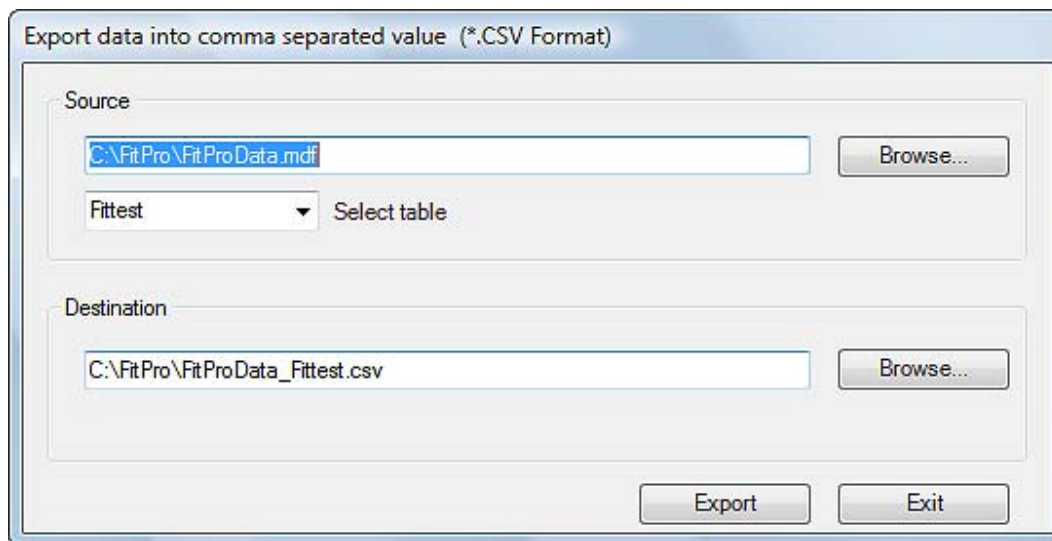

Figure 27. Export Data in CSV Format
1. Select **Database | Export | Comma Separated Value (CSV)**. The Export Data into Comma Separate Value (*.CSV) format dialog (Figure 27) appears.